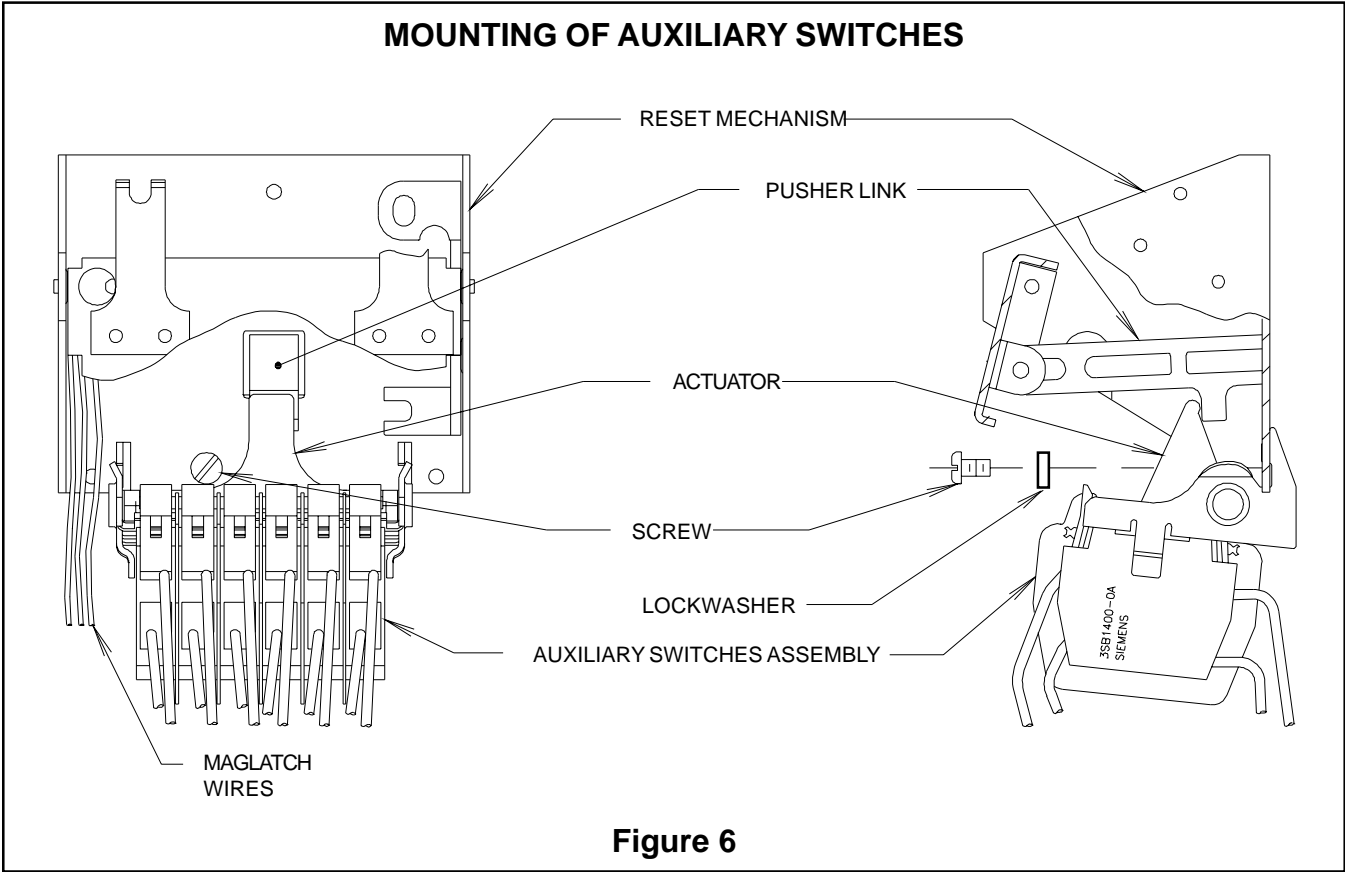

Figure 6
10. Make sure that the actuator rests on top of the pusher link (See Figure 6). Make sure no maglatch wires or other wires are routed underneath the auxiliary switch actuator.